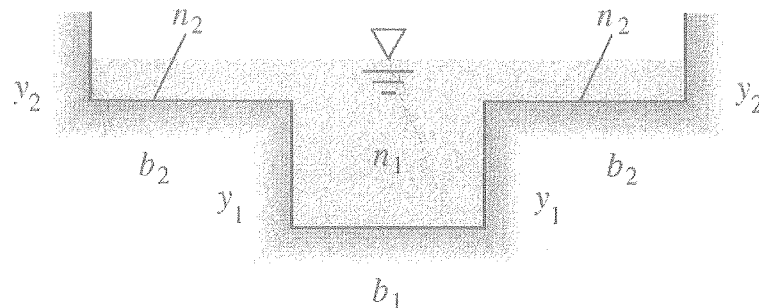

Figure Q3: A natural channel and its floodplains.
- (ii) In flood stage a natural channel consists of a deep main channel plus two floodplains, as shown in Fig. Q3. Main channel bed is clean and straight and the floodplains are shallow and rough with heavy brush.